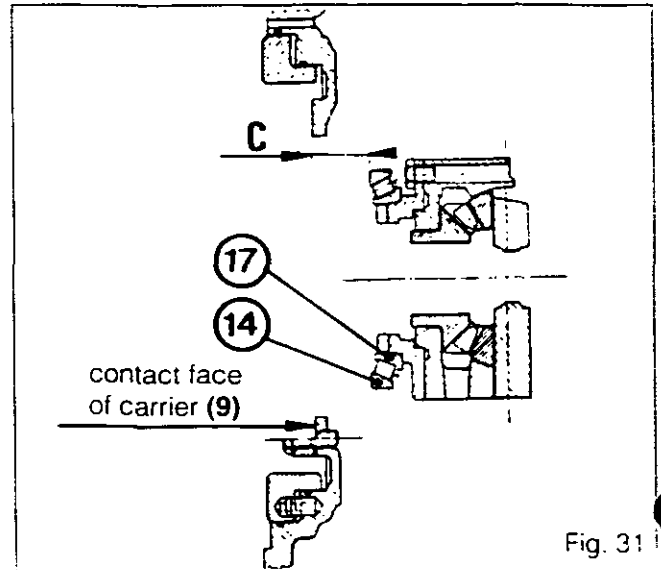

Fig. 31
100. Calculate the distance C between the cup (14) and the contact face of the carrier (9) (Fig. 31).